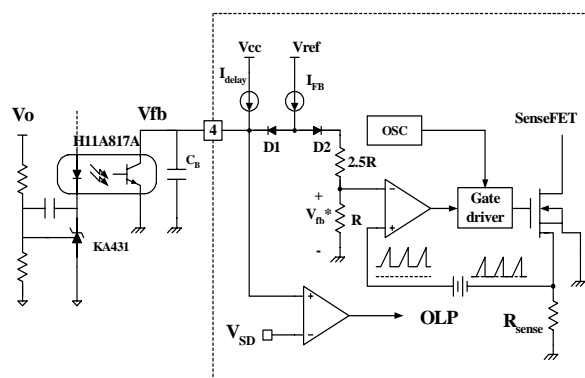

Figure 11. Pulse width modulation (PWM) circuit
3. Feedback Control : FSCQ0765RT employs current mode control, as shown in Figure 11. An opto-coupler (such as the H11A817A) and shunt regulator (such as the KA431) are typically used to implement the feedback network. Comparing the feedback voltage with the voltage across the Rsense resistor plus an offset voltage makes it possible to control the switching duty cycle. When the reference pin voltage of the KA431 exceeds the internal reference voltage of 2.5V, the H11A817A LED current increases, thus pulling down the feedback voltage and reducing the duty cycle. This event typically happens when the input voltage is increased or the output load is decreased.
3.1 Pulse-by-pulse current limit: Because current mode control is employed, the peak current through the Sense FET is limited by the inverting input of PWM comparator (Vfb*) as shown in Figure 11. The feedback current (IFB) and internal resistors are designed so that the maximum cathode voltage of diode D2 is about 2.8V, which occurs when all IFB flows through the internal resistors. Since D1 is blocked when the feedback voltage (Vfb) exceeds 2.8V, the maximum voltage of the cathode of D2 is clamped at this voltage, thus clamping Vfb*. Therefore, the peak value of the current through the Sense FET is limited.